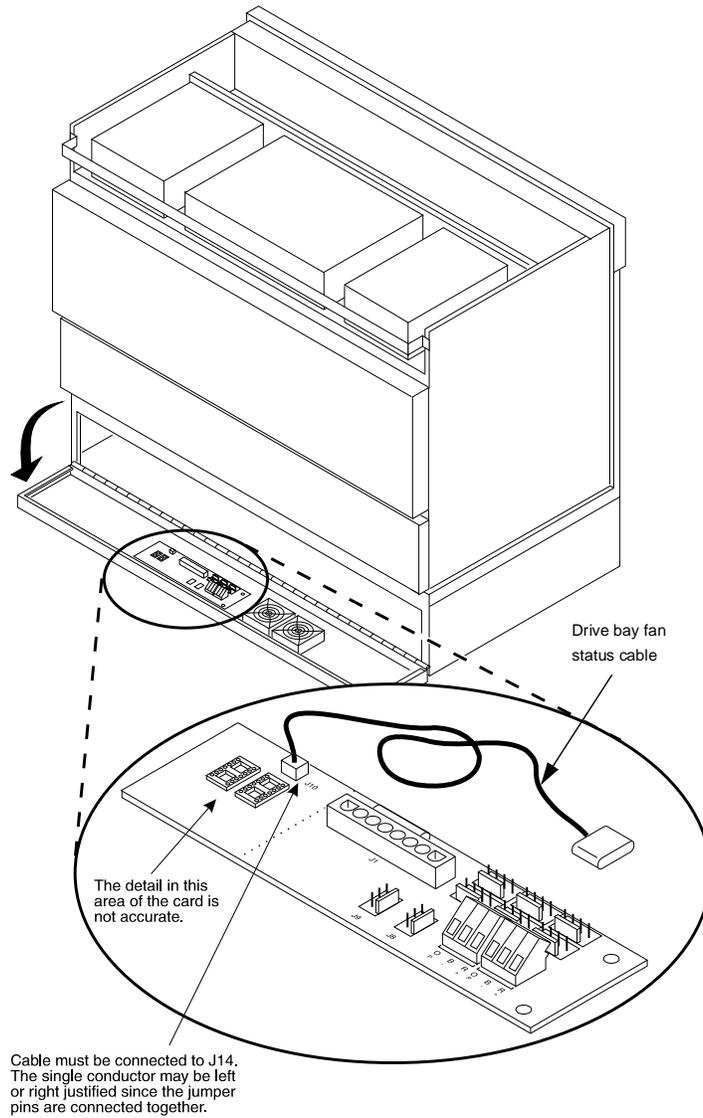

Figure 4-9. Fan Monitoring Circuit Card and Cabling
2. Disconnect the cable connectors and 6-color coded wires noting their position. Remove the fan monitoring circuit card from the door by removing the screws; save these screws. See Figure 4-9.
4. Add the new drive bay fan status cable to connector J14 of the new fan monitoring circuit card. See Figure 4-9.